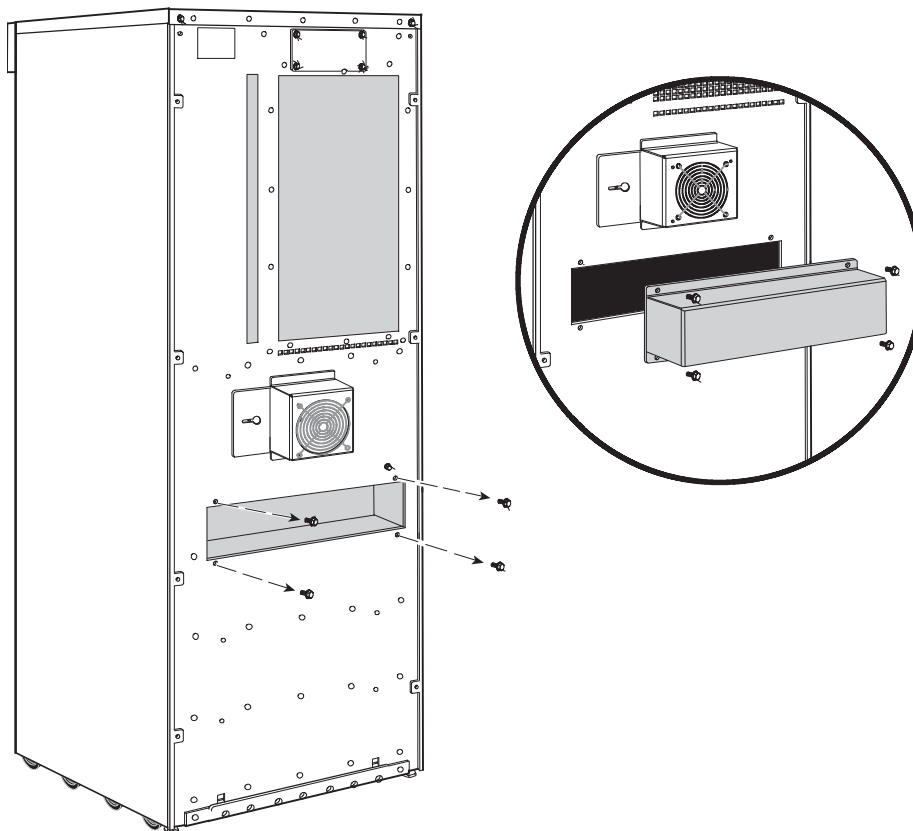

Figure 14. Reversing the UPS Conduit Landing Box
1. Remove the UPS conduit landing box from the rear panel and retain (see Figure 14).
8. Reinstall the UPS conduit landing box in the reversed position (see Figure 14).
14. Reinstall the UPS conduit landing box in the reversed position (see Figure 14 on page 24).